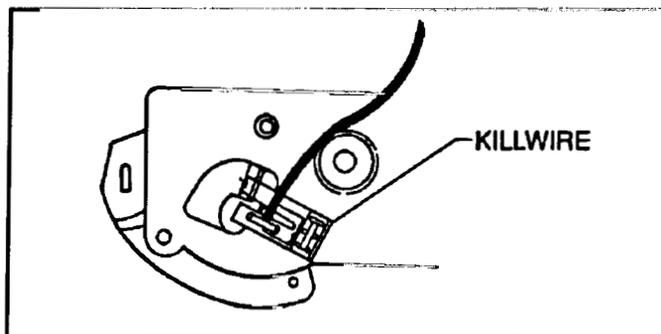

Figure 98
2. Route the ignition kill wire behind the throttle bracket and connect the kill wire to the grounding terminal on the bottom of the throttle bracket. See Figure 98.